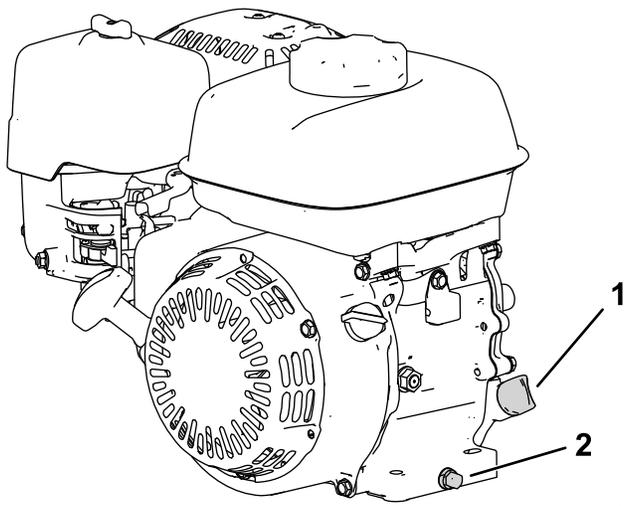

Figure 25
2. Position the machine so that the engine is level, and clean the area around the oil-fill tube (Figure 25).
3. Remove the drain plug, washer, and dipstick (Figure 25).